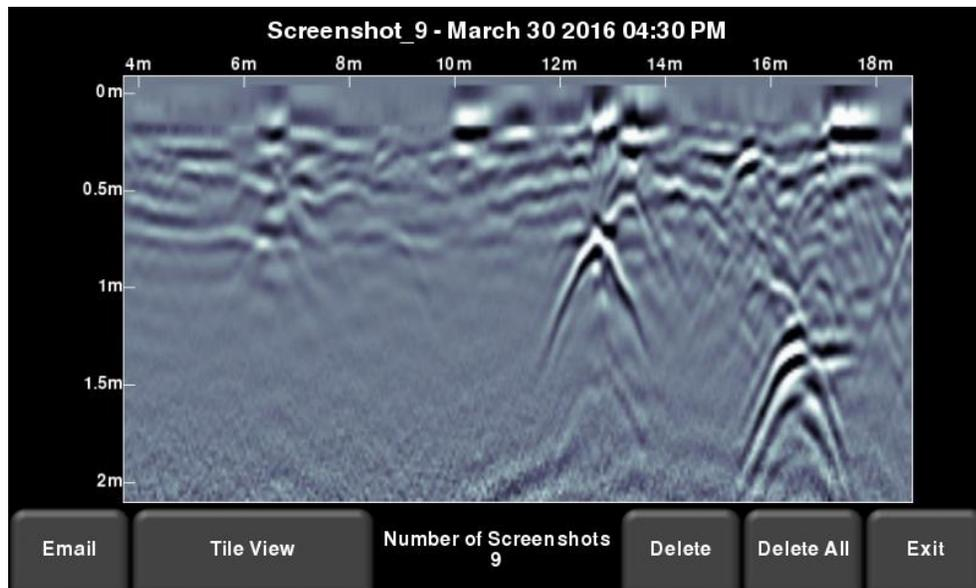

Figure 9-4 – Screenshot Gallery – Expanded View
**Expand** – This will enlarge the selected screenshot to full screen (Figure 9-4)